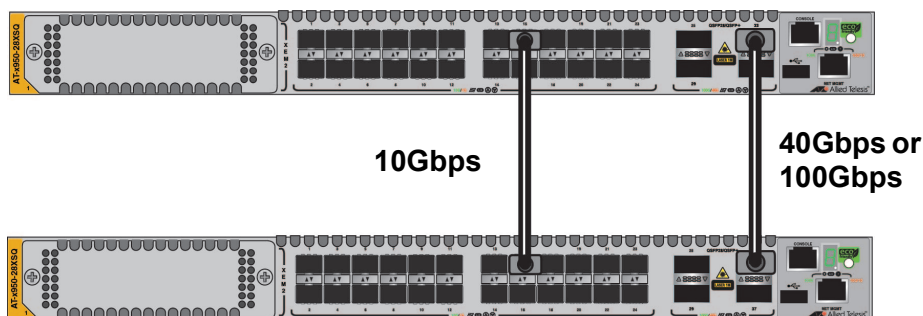

Figure 41. Unsupported Trunk with Different Port Speeds
- ❑ Trunk links must be the same speed. The example in Figure 41 is unsupported because the links are different speeds.